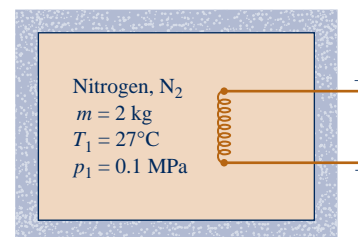

Fig. P3.125
- 3.125** As shown in Fig. P3.125, a tank fitted with an electrical resistor of negligible mass holds 2 kg of nitrogen (N_2), initially at 27°C, 0.1 MPa. Over a period of 10 minutes, electricity is provided to the resistor at a rate of 0.12 kW. During this same period, a heat transfer of magnitude 12.59 kJ